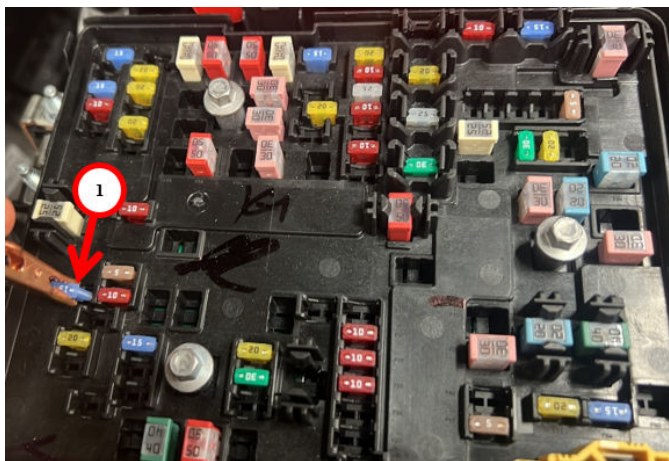

Fig. 1
3. Remove fuse F08 MOD CLUSTER from the underhood Power Distribution Center (PDC) Fig. 1.